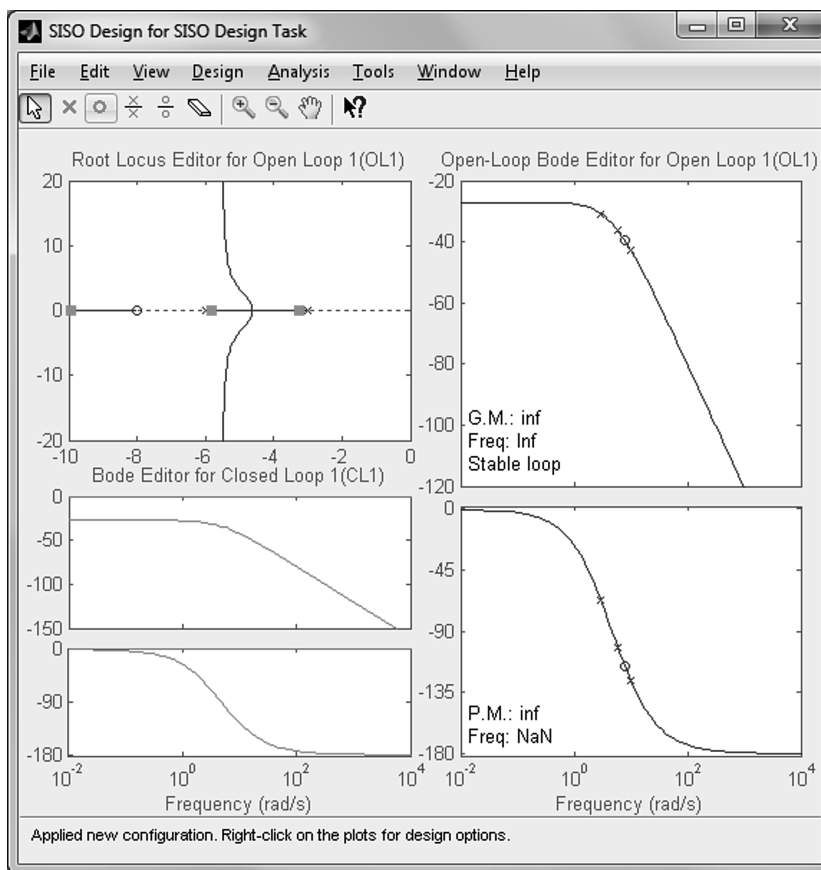

FIGURE E.12 SISO Design for SISO Design Task window
4. Interact with the SISO Design Tool After the **System Data** window closes, the **SISO Design for SISO Design Task** window now contains the root locus and Bode plots for the system as shown in Figure E.12.